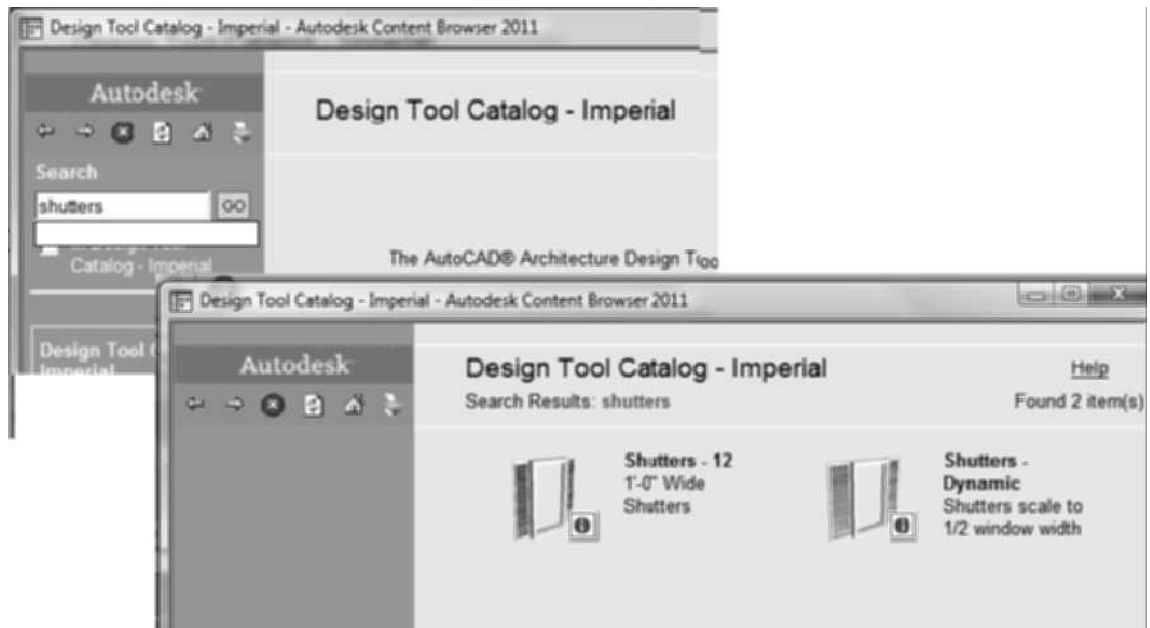

FIGURE 5.46 Inserting the Shutters 12 tool from the Content Browser
8. Type **Shutters** in the **Search** field of the catalog. Click the **GO** button as shown in Figure 5.46 to display the shutters tools. Drag the i-drop for the **Shutters - 12** onto the new shutters tool palette. Close the Content Browser.